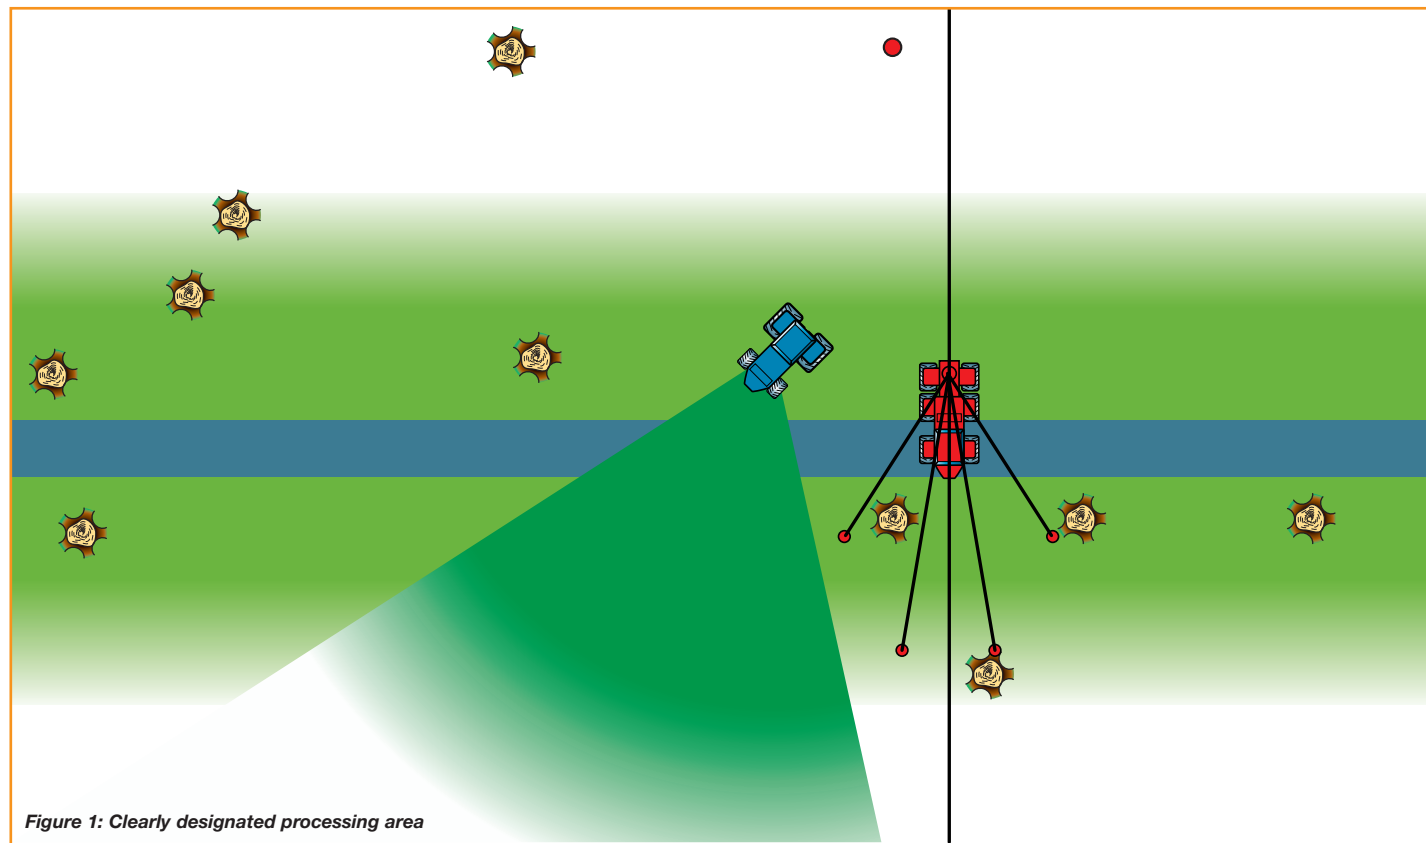

Figure 1: Clearly designated processing area
- 7 The operation must be planned to ensure all processing is carried out in a direction away from operators and machinery. A clearly designated processing area should be identified (see Figure 1).